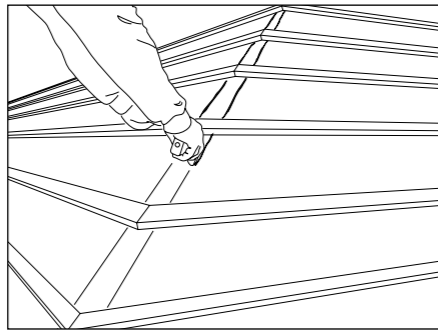

Fig. 1 – Neatly mitre battens
- 1 Lay roof underlay and battens in the normal manner, leaving a 5mm continuous gap in underlay either side of hip rafter if roof void is to be ventilated or recommendations of BS 5250. Mitre cut the ends of tiling battens and support on hip rafter (Fig. 1).